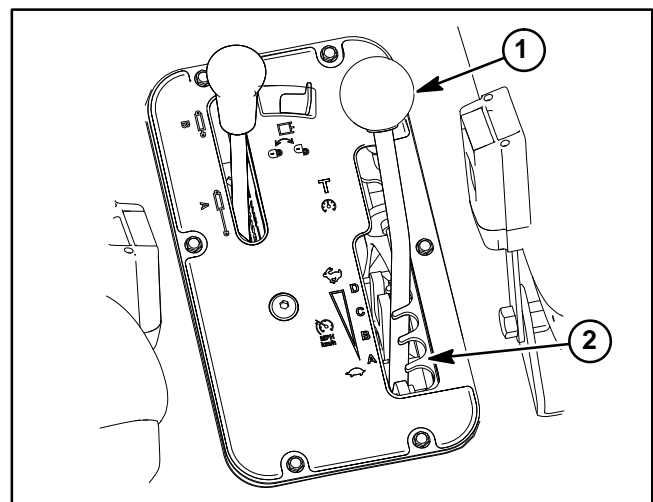

Figure 2
The drive system features Speed Control that delivers precise speed range control to limit the maximum ground speed of the machine for operations that require a constant speed like spraying and topdressing. The speed range lever mounted to the seat base console (Fig. 2) is used to select one of four (4) work speed ranges that are used to limit maximum ground speed or a transport speed range that is used when the machine is moved between job sites. The accelerator pedal must be released before shifting between speed ranges but the vehicle does not need to be stopped.